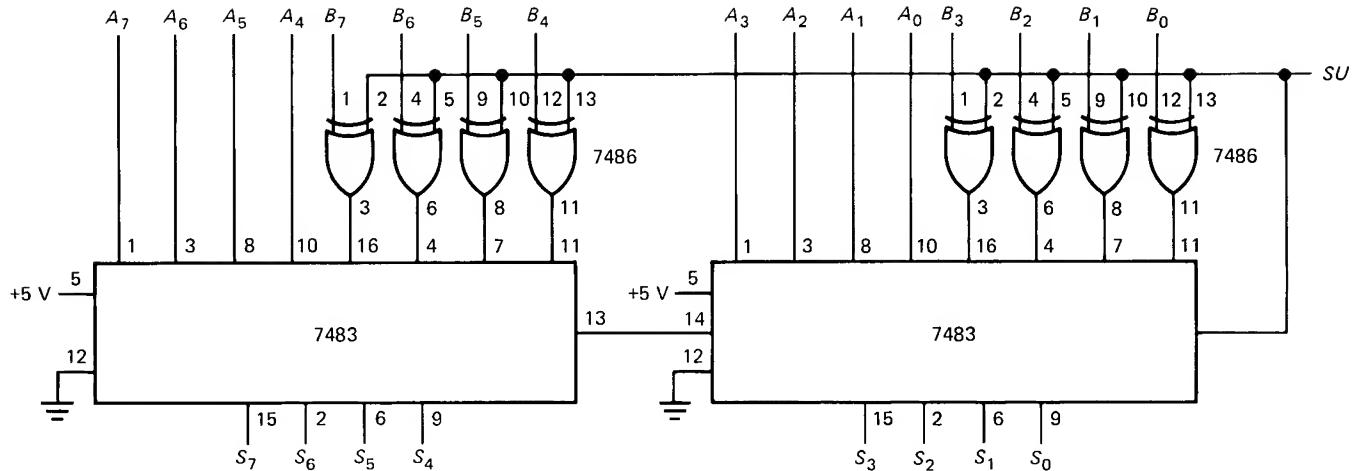

Fig. 6-9
- 6-11.** Suppose the inputs to Fig. 6-9 are A = 3CH and B = 5FH. What is the output for a low SUB? A
- 6-12.** In Fig. 6-9 which of the following inputs cause an overflow when SUB is low?